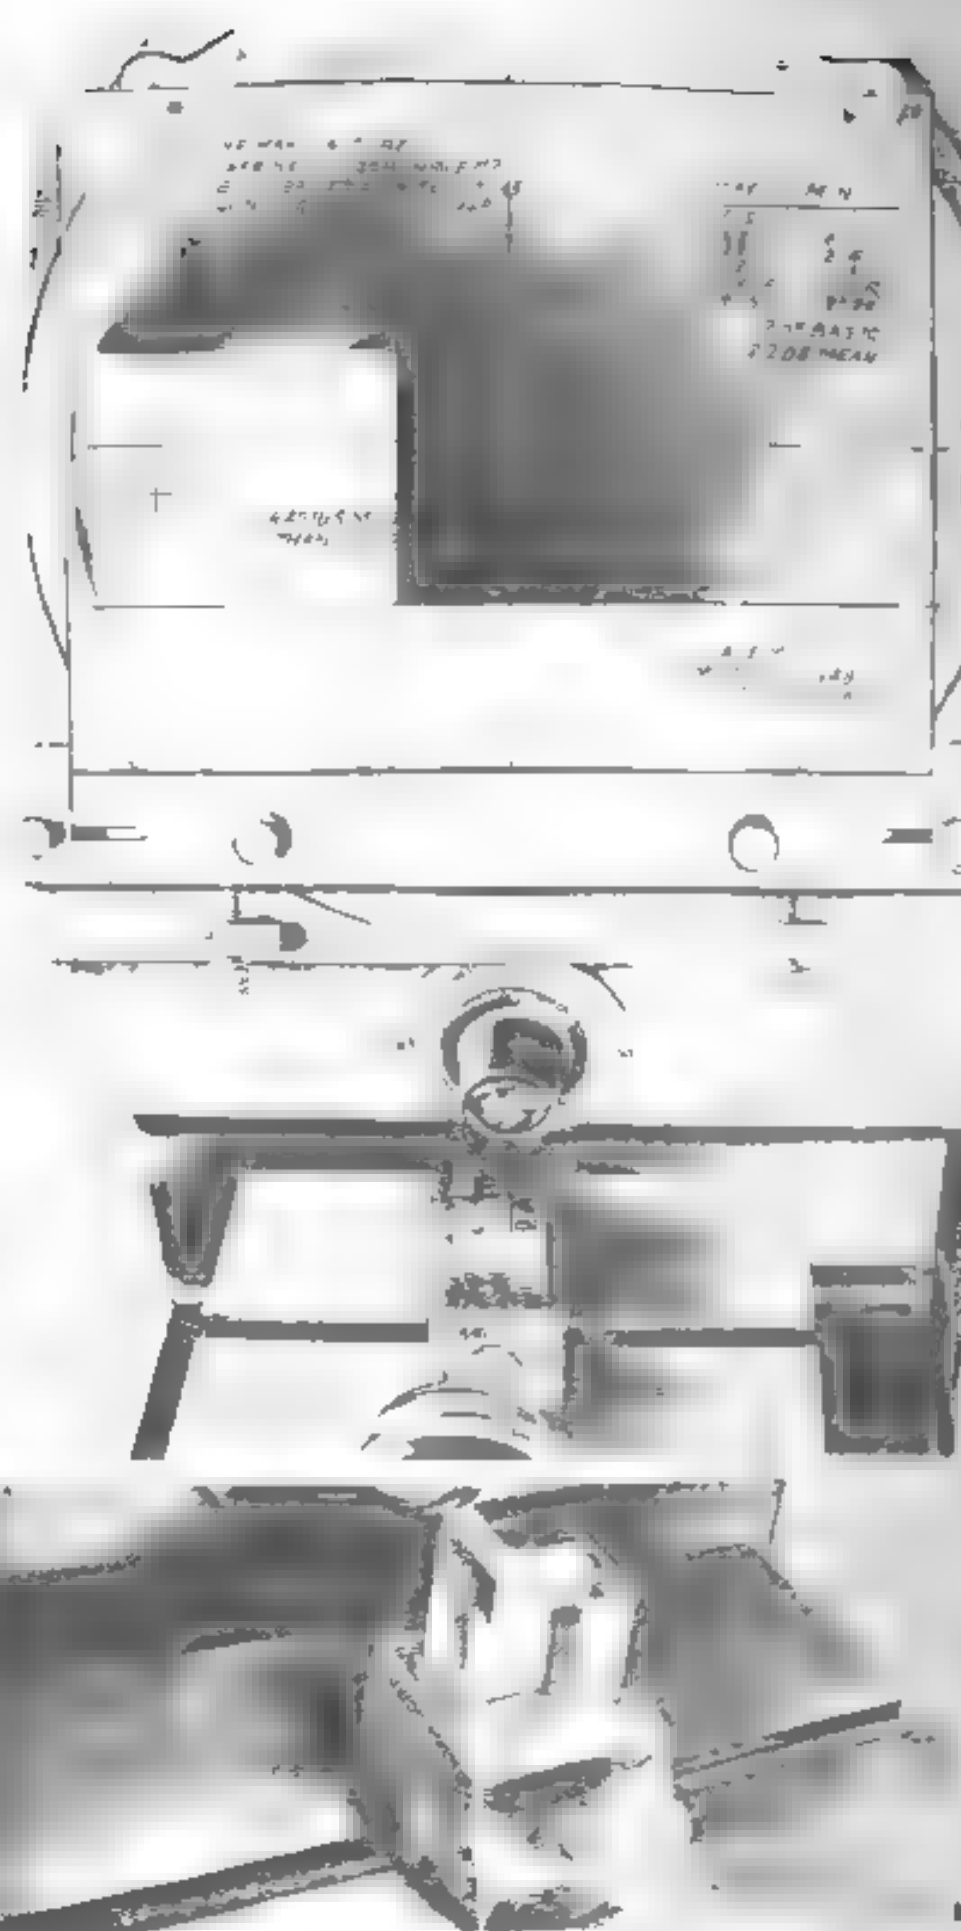

Figure 120 Screen and fixture set up for trigger inspection.
d. Note that a reversed image of the object is projected upon the screen. For example, in figure 120 the upper right-hand corner (in this case the "setting" corner) of the master appears on the screen as the lower left-hand corner (of the shadow image).
- (5) The trigger master should be placed in its correct position on the trigger staging fixture 7319701 exactly as in figure 120. It can be identified by the nomenclature "master for C7319701" on its face. In correct position, identifying nomenclature should be facing outward and its back should be against the fixture face.
- (6) With the focusing knob move the table forward and back until a sharply defined image of the master appears on the chart.
- (7) Raise and lower the table with the vertical handwheel and move the staging fixture in the groove in the table until the image of the highlighted, upper right of "setting" corner of the master is outlined by the "set master" lines indicated on the chart (fig. 120).
- (8) If the sharp lines of the image do not lie along the "set master" lines, loosen the chart holder clamping screws and adjust the chart with the vertical adjusting screws. Then clamp the holder in this position.
- (9) Tighten the hold-down clamp to lock the staging fixture in place.
- (10) Remove the master from the fixture.